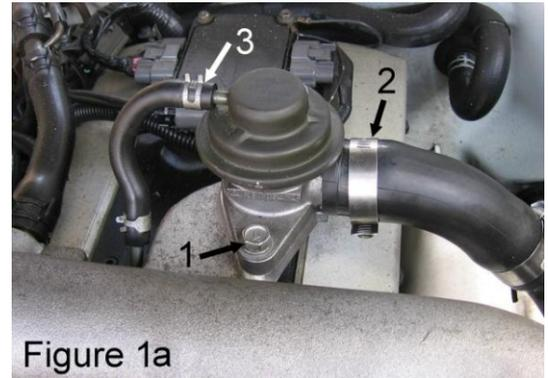

Figure 1a
Remove the two bolts shown in figures 1a or 1b (item 1). Open the spring clamp (item 3) and pull the vacuum hose free, then loosen the clamp on the recirc hose (item 2) and remove the valve from the car. If there is a factory gasket, remove it as it will not be re-used.